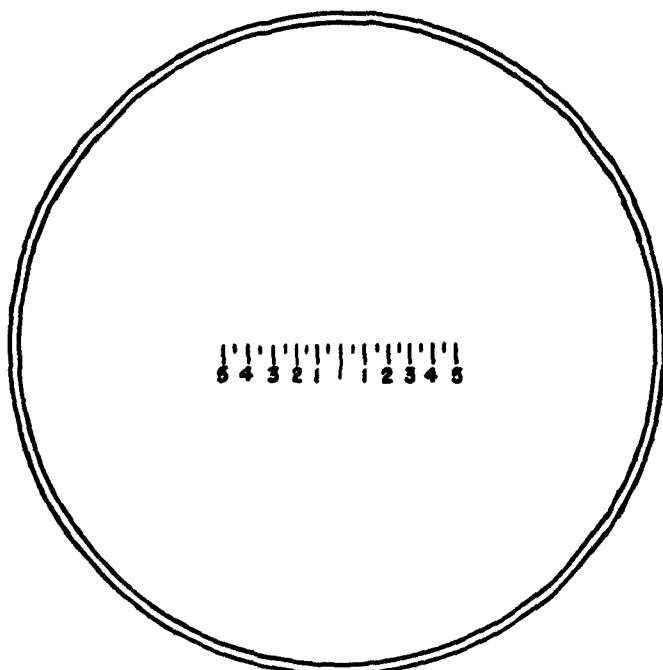

FIGURE 32.—Azimuth reticle, elbow telescope M24.
c. Azimuth reticle.—The reticle of the azimuth telescope has a single horizontal scale marked in mils lead (fig. 32). The minimum graduation is 5 mils and the numbered graduations are multiples of 10.